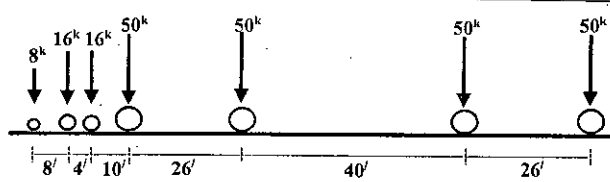

Fig. 11
12. Due to the wheel loads shown in Fig. 11, compute the absolute maximum bending moment for a simply supported beam having a span of 80 ft. (28)
13. Due to the wheel loads shown in Fig. 11, calculate the maximum live load shear at the quarter point of a simply supported beam of 100-ft deck span. (28)